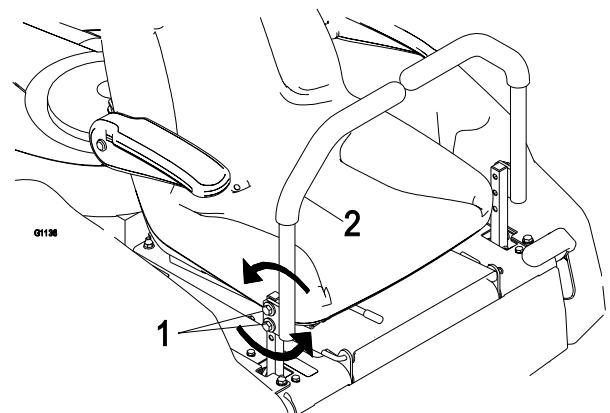

Figure 3
4. Align the levers front/rear position. With the levers in the neutral position, loosen the hardware and adjust the levers sliding and/or tilting the lever(s) forward or backward until properly aligned and tighten hardware (Figure. 3).